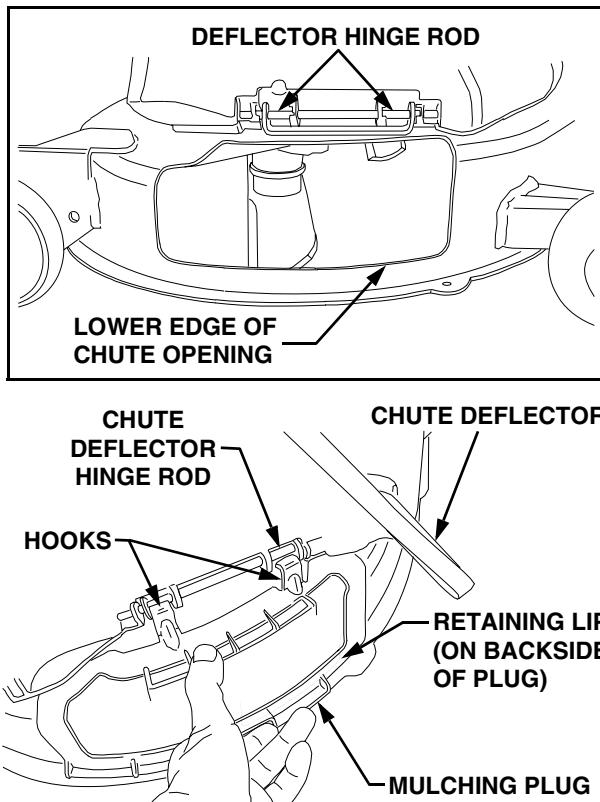

Figure 59
2. Lift and hold the chute deflector in the upward position (Refer to Figure 59).
3. Position the mulching plug so that the retaining lip on the backside of the plug partially interlocks with the lower edge of the deck chute opening; then rotate the top of the plug upward so that the hooks engage the deflector hinge rod (Refer to Figure 59).